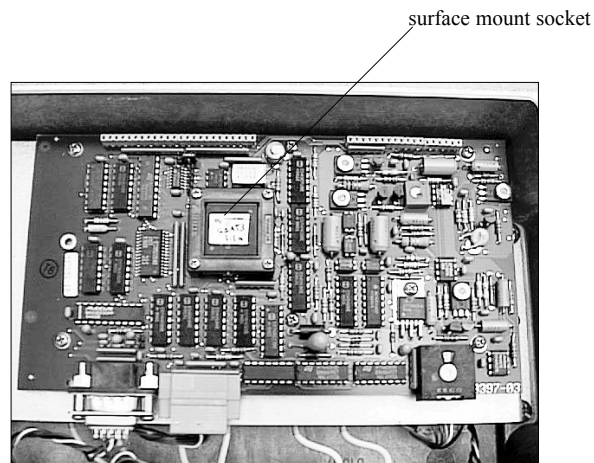

Figure 2. Printed circuit board inside of the electronics box.
4. Remove the electronics box cover to gain access to the printed circuit board shown in figure 2.
5. Locate the surface-mount socket shown in figure 2.